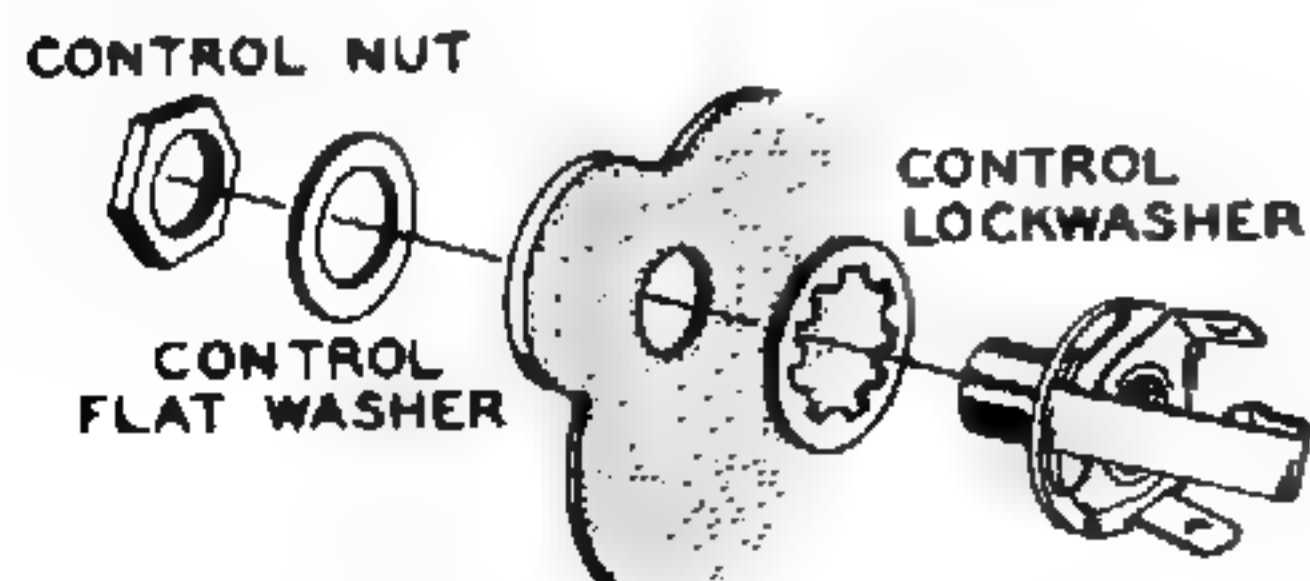

Figure 5
- (✓) Referring to Figure 5, install the phone jack at Z, using a control lockwasher, flat washer, and nut. Position as shown.